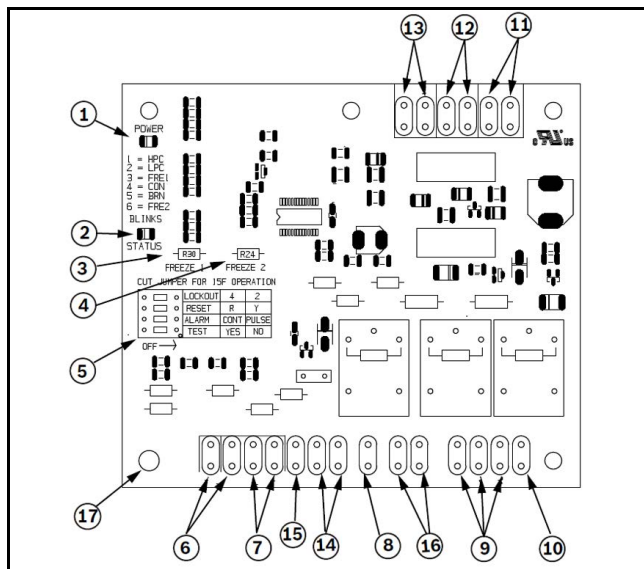
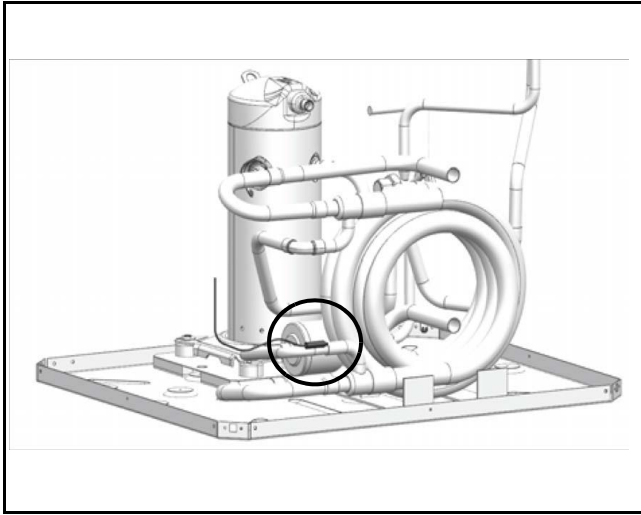

Fig. 16 UPM controller board
Fig. 17 Waterside Freeze Protection Sensor Location
- Waterside freeze protection sensor, mounted close to condensing water coil, monitors refrigerant temperature between condensing water coil and thermal expansion valve or capillary tube. If temperature drops below or remains at freeze limit trip for 30 seconds, the controller will shut down the compressor and enter into a soft-lockout condition. The default freeze limit trip is 26°F; however, this can be changed to 15°F by cutting the R30 (Freeze 1) resistor located on top of DIP switch SW1 (Refer to Fig. 16, item [3] for resistor location). Refer to Fig. 17 for sensor location.
- The condensate overflow protection sensor is located in the drain pan of the unit and connected to the "COND" terminal on the UPM board. (Refer to Fig. 16, item [15].)
- **MALFUNCTION OUTPUT:** Alarm output is Normally Open (NO) dry contact. If pulse is selected the alarm output will be pulsed. The fault output will depend on the dip switch setting for "ALARM." If it is set to "CONST," a constant signal will be produced to indicate a fault has occurred and the unit requires inspection to determine the type of fault. If it is set to "PULSE," a pulse signal is produced and a fault code is detected by a remote device indicating the fault. For blink code explanation, see Table 6. The remote device must have a malfunction detection capability when the UPM board is set to "PULSE."
- **FREEZE SENSOR:** The default setting for the freeze limit trip is 26°F (Sensor 1); however, this can be changed to 15°F by cutting the R30 resistor located on top of the DIP switch SW1, freeze limit trip should only be changed to 15°F when a closed loop system with appropriate antifreeze mixture is used. **Since Freeze Sensor 2 is dedicated to monitor the load side coil it is recommended to leave the factory default setting on the board.** The UPM controller will constantly monitor the refrigerant temperature with the sensor mounted close to the condensing water coil between the thermal expansion valve and water coil. If temperature drops below or remains at the freeze-limit trip for 30 seconds, the controller will shut the compressor down and enter into a soft-lockout condition. Both the status LED and the alarm contact will be active. The status LED will be active, blinking the fault code. The LED will flash (3 times) the code associated with this alarm condition. If this alarm occurs 2 times (or 4 if Dip switch is set to 4) within an hour the UPM controller will enter into a hard-lockout condition. It will constantly monitor the refrigerant temperature with the sensor mounted close to the evaporator between the thermal expansion valve and evaporator coil as shown in Fig. 17. If temperature drops below or remains at the freeze limit trip for 30 seconds, the controller will shut the compressor down and enter into a soft-lockout condition. Both the status LED and the alarm contact will be active. The status LED will be active, blinking the fault code. The LED will flash 3 times the code associated with this alarm condition. If this alarm occurs 2 times (or 4 if Dip switch is set to 4) within an hour the controller will enter into a hard-lockout condition.